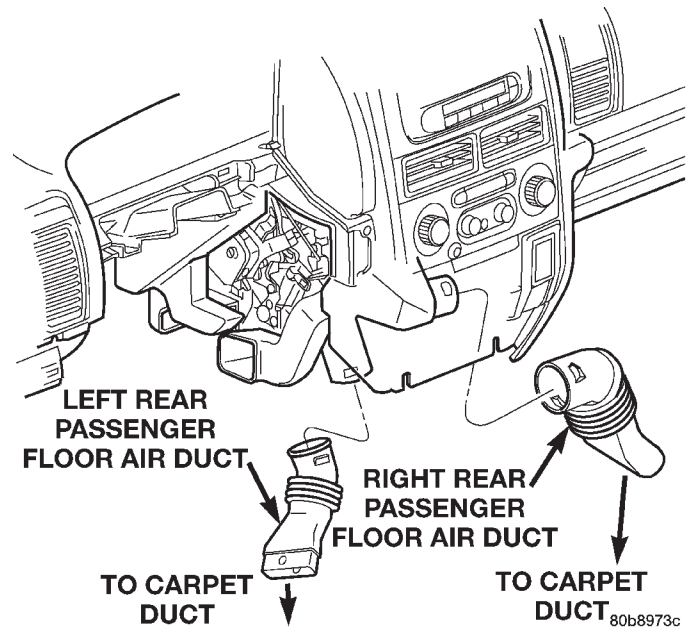
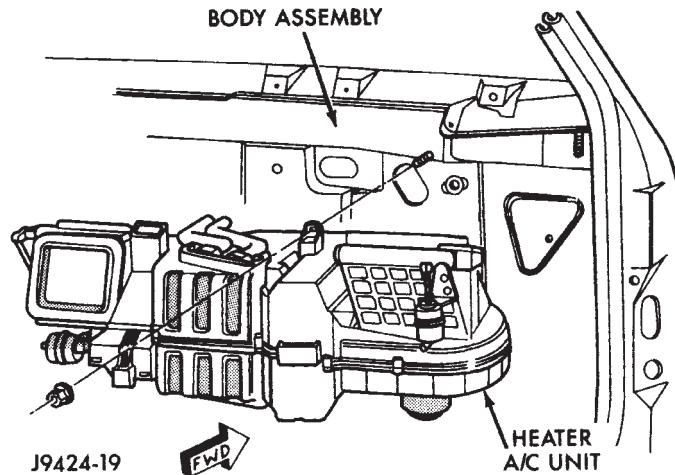

Fig. 52 Rear Floor Heat Ducts
Fig. 53 Heater A/C Housing Remove/Install
- (11) Remove the rear floor heat ducts from the floor heat duct outlets (Fig. 52).
- (12) Unplug the heater-A/C housing wire harness connectors.
- (13) Remove the heater-A/C housing mounting nuts from the studs on the passenger compartment side of the dash panel (Fig. 53).
- (14) Remove the heater-A/C housing from the vehicle, ensuring that the interior is covered in case of loss of fluids.